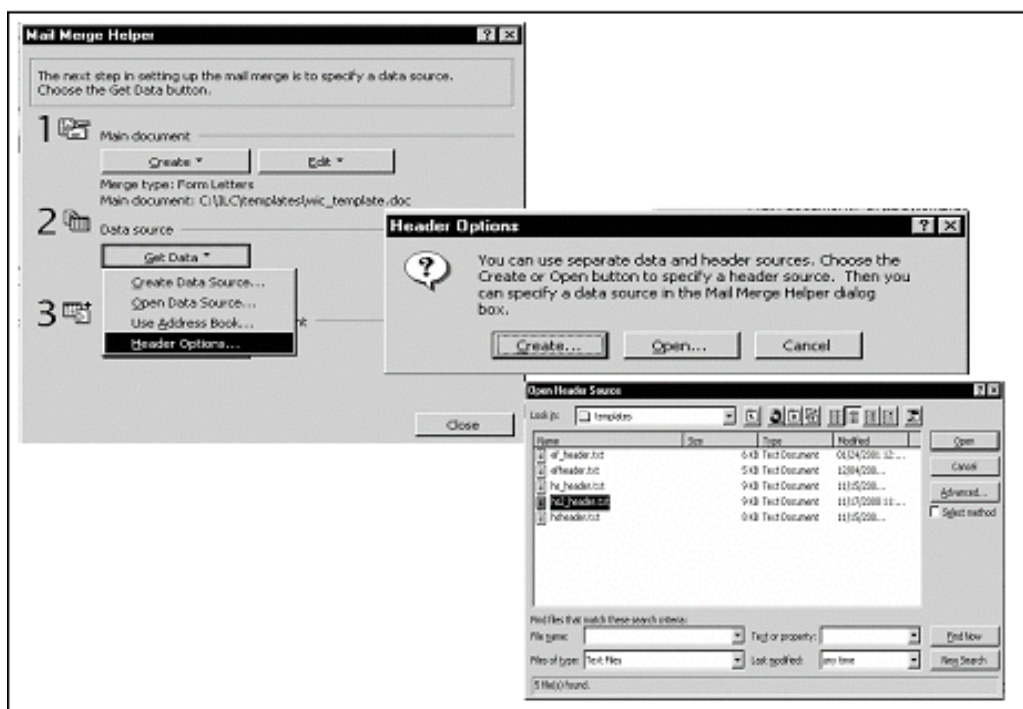

Figure 6-63: Check the Health Summary Template, Steps 5-7
5. Click the Get Data option. A dropdown menu will appear (Figure 6-63). Click the Header Options option. A dialog box will open.